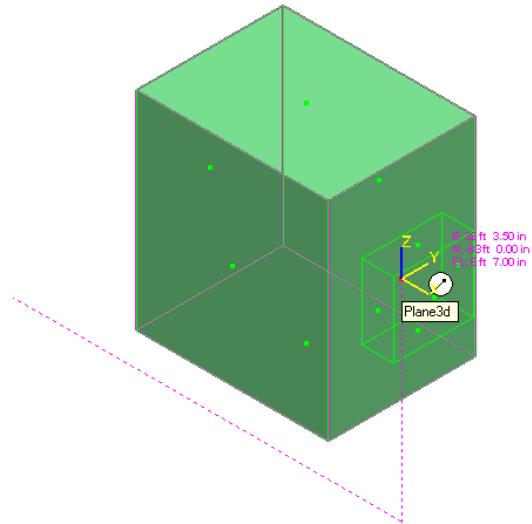

Figure 50: The Shape Rotated Towards South
21. Use the arrow key to rotate the shape so that the shape x axis is facing South. Move the cursor and locate the center point on the south face of the transformer body, as shown in Figure 50.